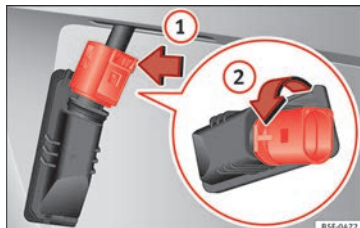

Fig. 224 Number plate light: Remove the bulb holder.
3. In the connector lock, turn » **Fig. 224** towards the arrow ① and pull the connector.
4. Rotate the bulb holder in the direction of arrow ② and extract it with the bulb.
6. Insert the bulb holder in the number plate light and turn in the opposite direction of arrow ② until it stops.